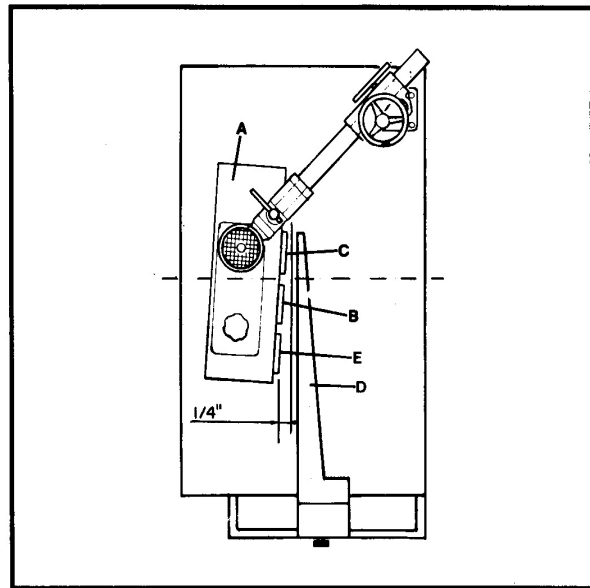

Fig. 12
Decide the location you wish to position the mounting bracket of the feeder assembly. Refer to illustrations shown in Figs. 12, 13 and 14 for assistance when mounting the feeder assembly to a table saw, jointer or shaper. To mount the feeder assembly, proceed as follows:
The feeder assembly (A) Fig. 12, should be positioned on a table saw in such a manner that the saw blade is between the middle roller (B) and the outfeed roller (C). The feeder should also be positioned slightly at an angle to the direction of feed. For example, the outfeed roller (C) should be approximately 1/4" closer to the fence (D) than the infeed roller (E), as shown in Fig. 12. This position will keep the workpiece against the fence.